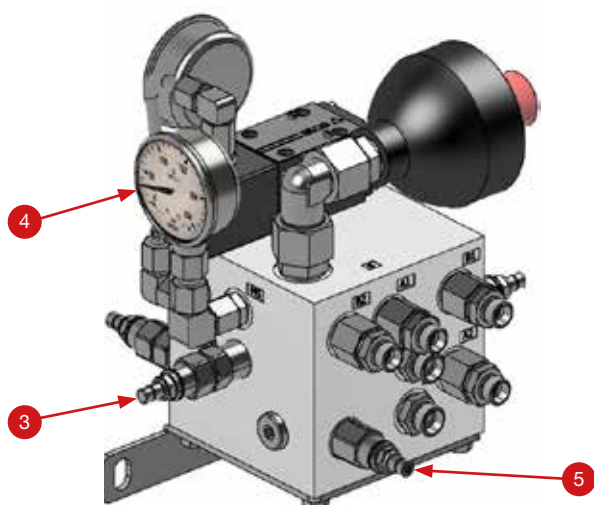

Fig. 72. Hydraulic block 1 circuit - front view
6. Set valve 4 to a pressure of 65 bar. The set pressure is displayed on the pressure gauge (Fig. 72, item 4).